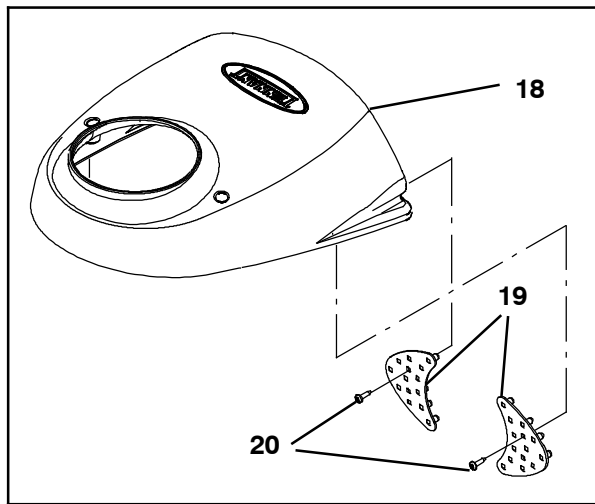

FIG. 11
15. Use two pan screws (20) to install each LED light assembly (19) onto the light module cover (18). (Fig. 11)
28. Install a 15-Amp circuit breaker (25) and circuit breaker boot (22) into electrical panel CB15 location. (Fig. 11)